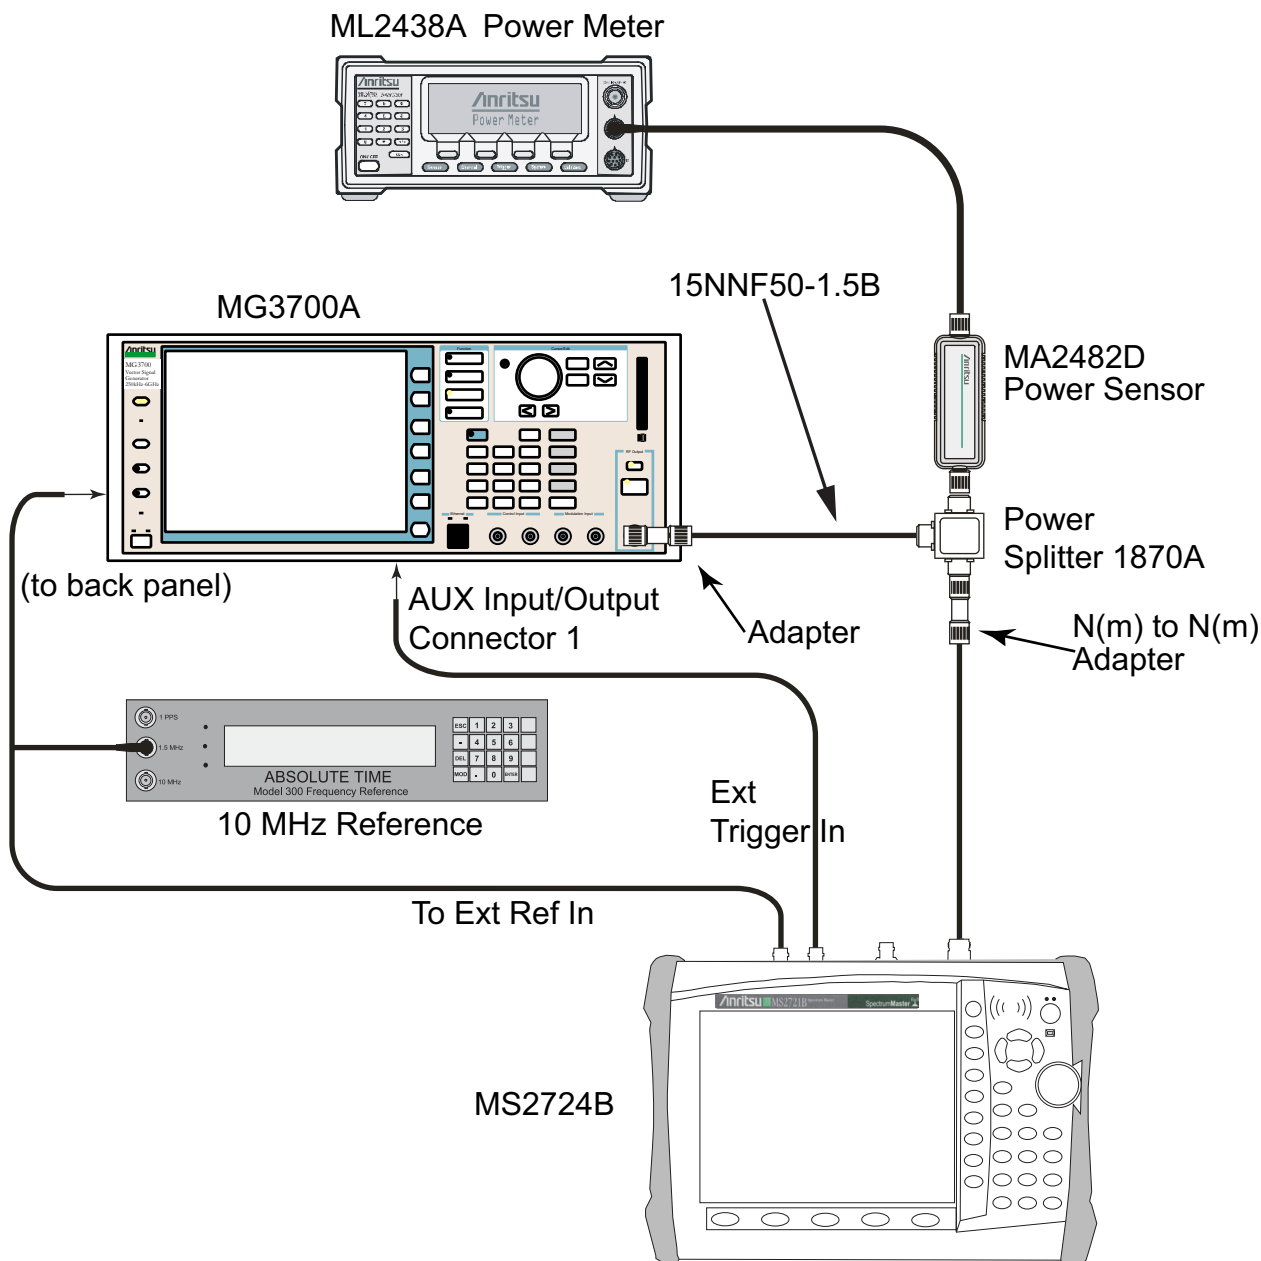

Figure 2-19. CDMA Signal Analyzer – Test Setup
1. Connect the equipment as shown in Figure 2-19.